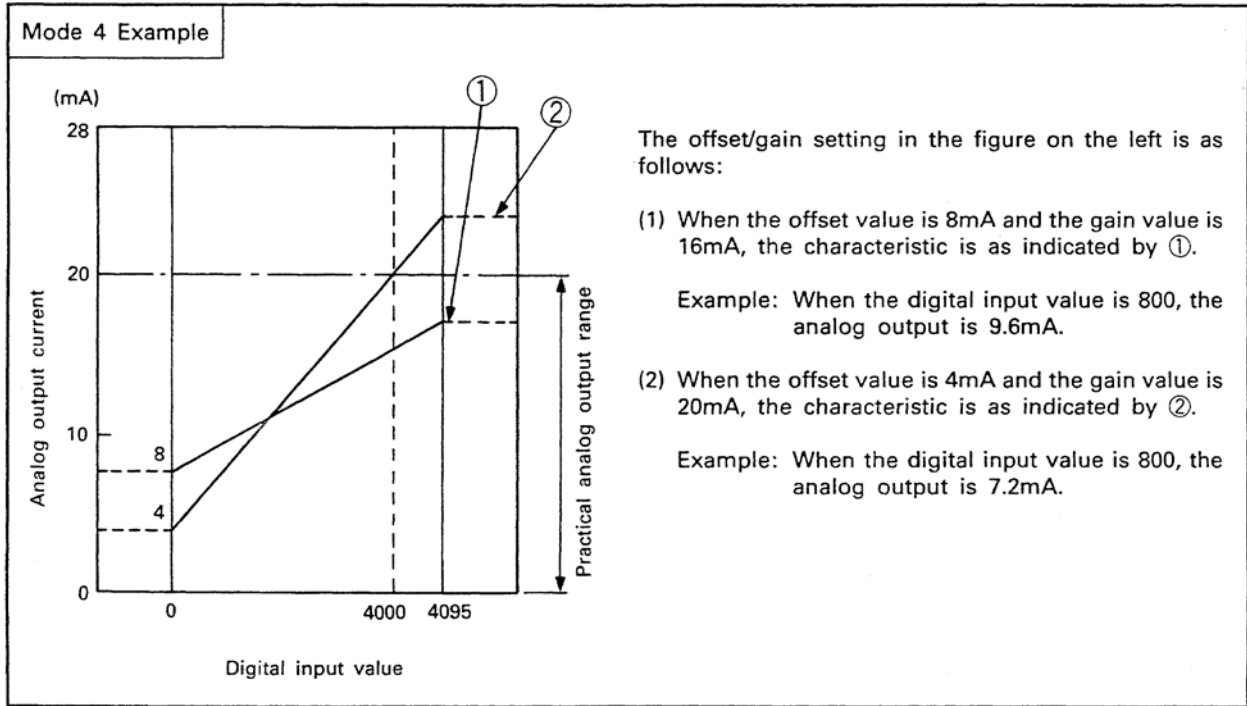

Fig. 3.4 Current Output Characteristic
Fig. 3.4 shows a current output characteristic graph for several offset/gain settings.
(1) The maximum resolution and overall accuracy are within the range of performance specifications when the working analog current range is 0 to +20mA. Avoid use outside the above indicated range (dotted line on the current output characteristic graph in Fig. 3.4).